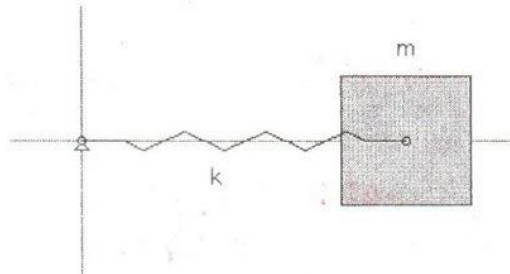

Fig. 4
5. As shown in Fig. 4, a single degree of freedom mass-spring system consists of a $m=5\text{kg}$ mass suspended by a linear spring which has a stiffness coefficient of $k=500\text{N/m}$. The mass is given an initial displacement of 0.5m and released from the initial velocity condition $v_0=10\text{m/s}$. Determine the system (a) Differential equation of motion, (b) Circular Natural Frequency, Natural Frequency and Period, (c) Dynamic response. (10%)